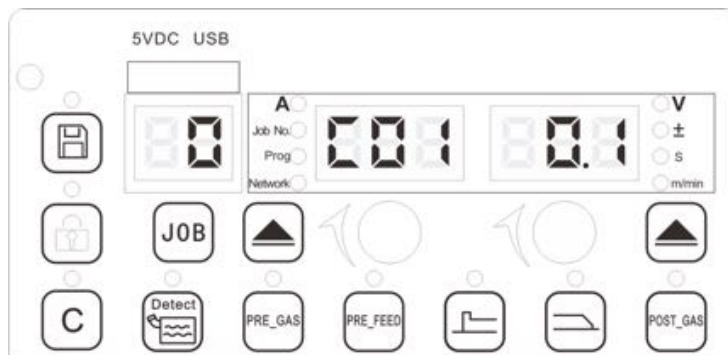

Figure 3-18 Burn-back setting
1. Pressing the JOB button and choose JOB 0 by turning the left knob. Then pressing the JOB button again to confirm the choice, and there will be the view for burn-back as shown in Figure 3-18.